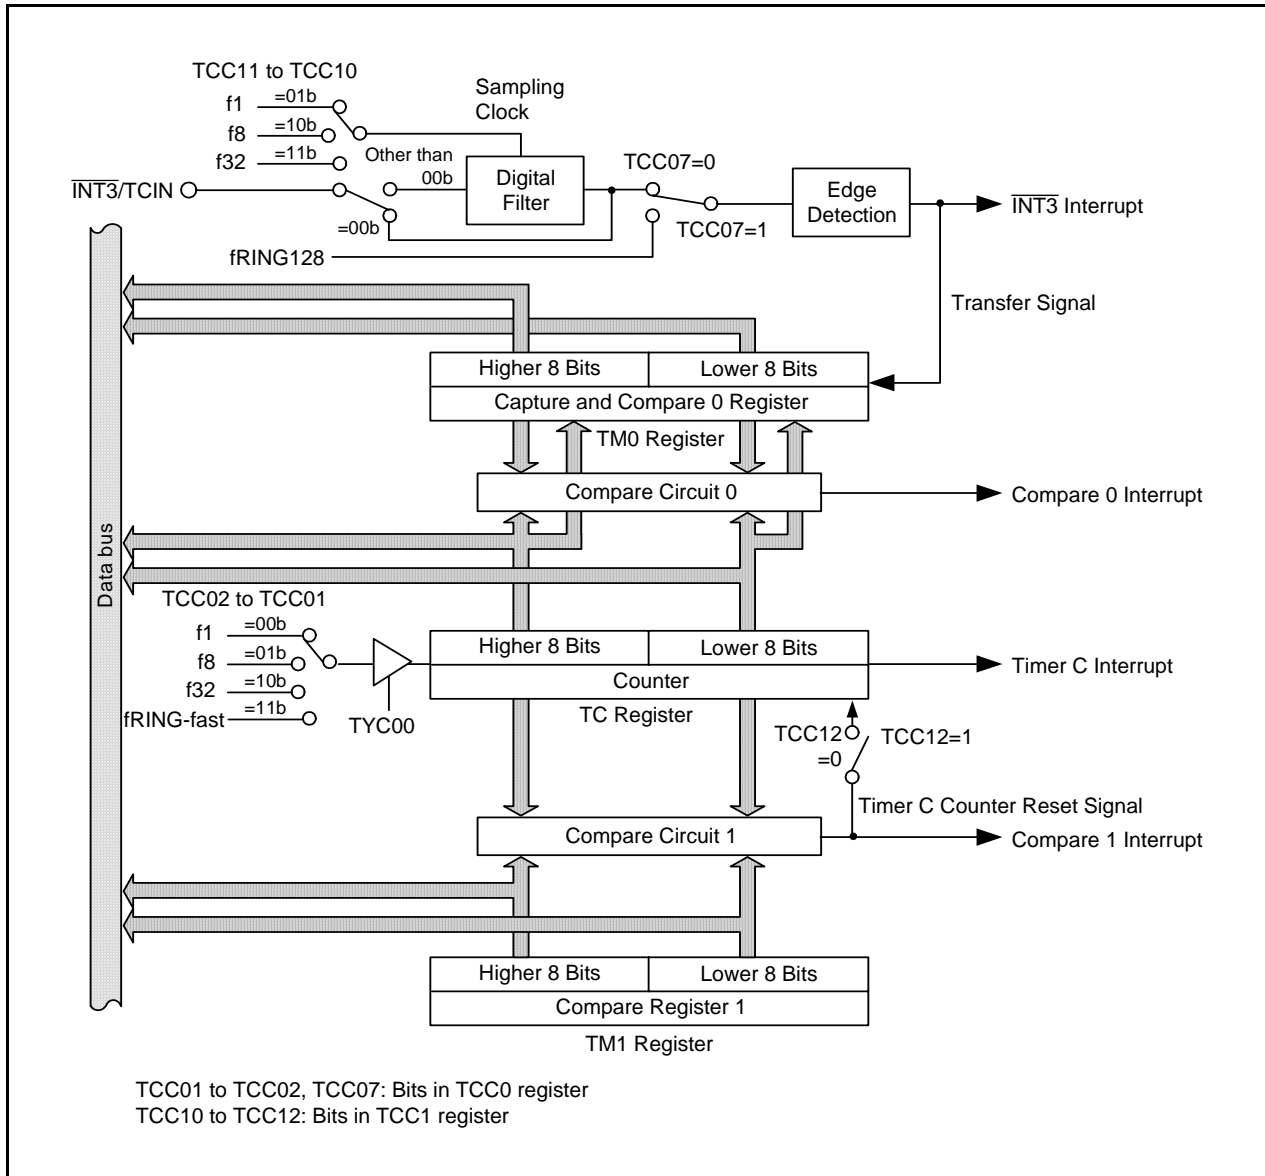
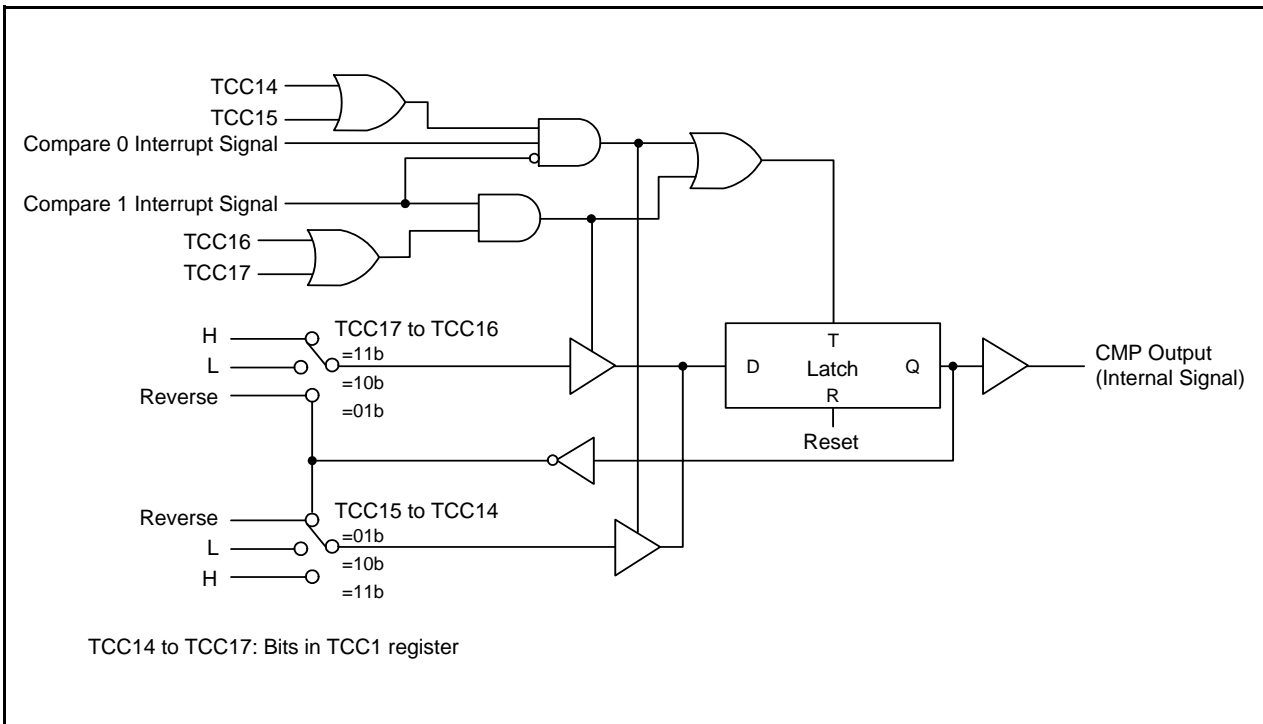
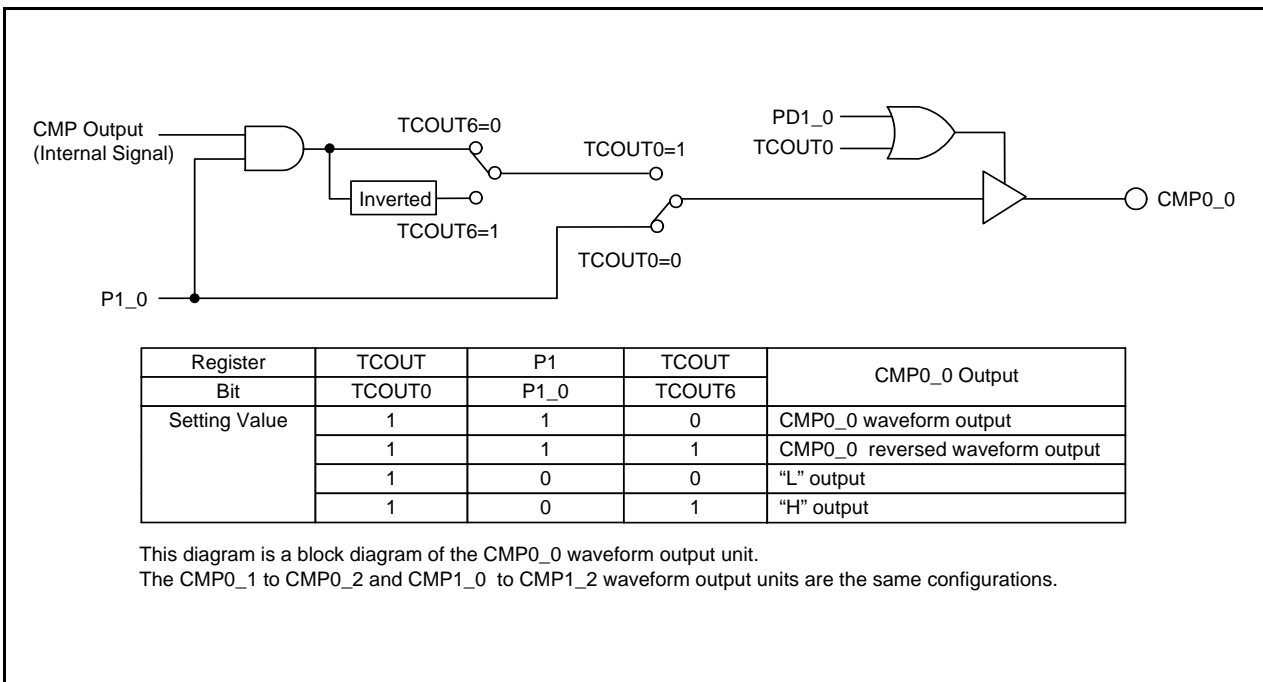

Figure 13.23 Block Diagram of Timer C
Figure 13.24 Block Diagram of CMP Waveform Generation Unit
Figure 13.25 Block Diagram of CMP Waveform Output Unit
Timer C is a 16-bit timer. Figure 13.23 shows the Block Diagram of Timer C. Figure 13.24 shows the Block Diagram of CMP Waveform Generation Unit. Figure 13.25 shows the Block Diagram of CMP Waveform Output Unit.
1. When the corresponding port data is "1", the waveform is output depending on the setting of the registers TCC1 and TCOUT. When the corresponding port data is "0", the fixed level is output (refer to **Figure 13.25 Block Diagram of CMP Waveform Output Unit**).